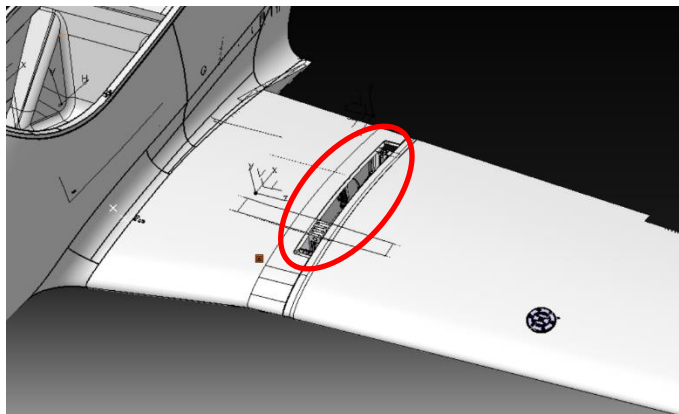

Figure 2 – Wing inspection door.
1. Remove wing inspection door highlighted in Figure 2